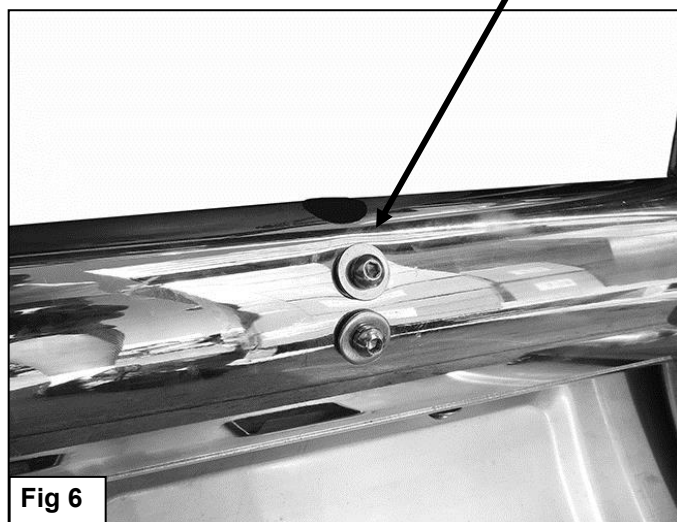

Fig 6
7. If not installing lights at this time, use the included (4) 6mm Button Head Bolts, (4) 6mm Lock Washers and (4) 6mm Flat Washers to plug the (4) threaded holes in the back of the cross bar, **(Figure 6)**.